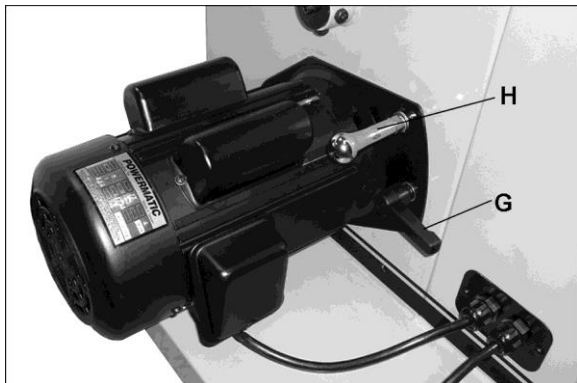

Figure 34
4. Loosen motor lock handle (G, Figure 34).
5. Raise motor lift handle (H) and retighten motor lock handle to hold motor in raised position.
7. Loosen motor lock handle (G) and allow motor to lower.